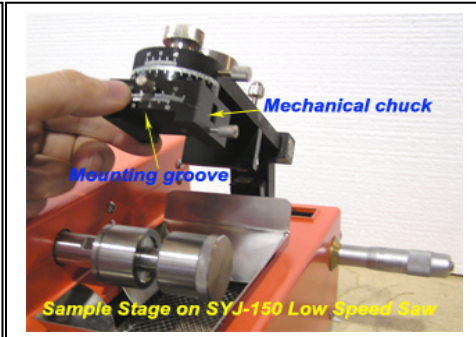

Fig. 6
- Put the cross vise to mechanical chuck on the SYJ-150 low speed diamond saw and tighten the screw (Fig. 6)